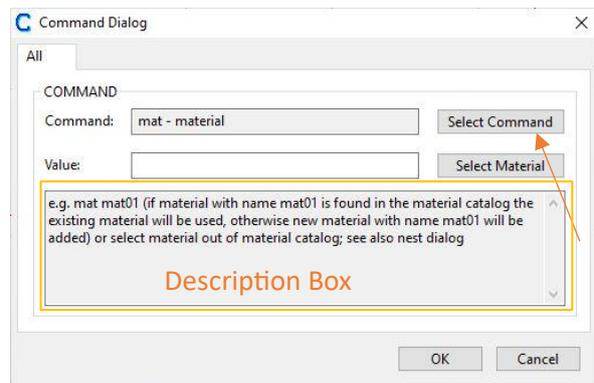
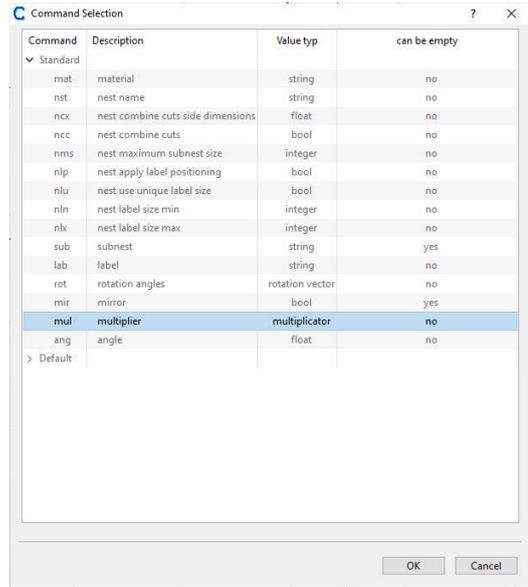

Figure 60
Figure 61
Next the Command Dialog will appear (Figure 60). The Material (mat) Command is selected by default. This command can be used to assign materials. You can find a description of each command in the Description Box (Figure 60).
a. The Bulkhead cut covers 45° of a complete Bulkhead layer. Thus, we need this cut eight times to get the complete 360°. Either we can copy it eight times or we can also use the NestKing Multiplier Command. Therefore click on **Select Command** in the Command Dialog (Figure 60) to enter the Command Selection Dialog (Figure 61).